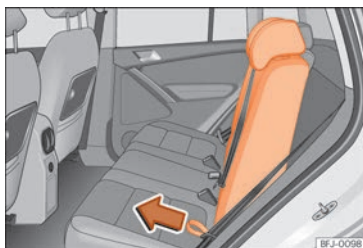

Fig. 111 Folding down and lifting the rear seat backrest
- Pull the cord » Fig. 111 forward in the direction of the arrow while holding the seat backrest and move it forward slowly » ⚠.